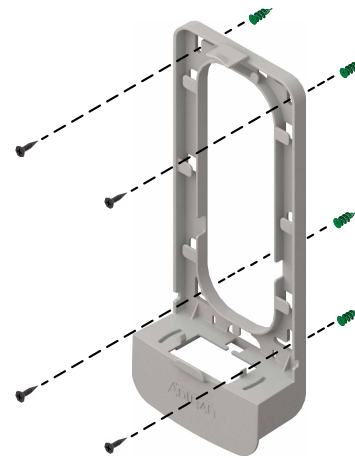

Figure 1. Mount ONT Fiber Tray to Wall
1. Refer to Figure 1 and mark hole locations using the Fiber Tray and Bracket as a template. Use a carpenter's level to ensure the bracket is level.